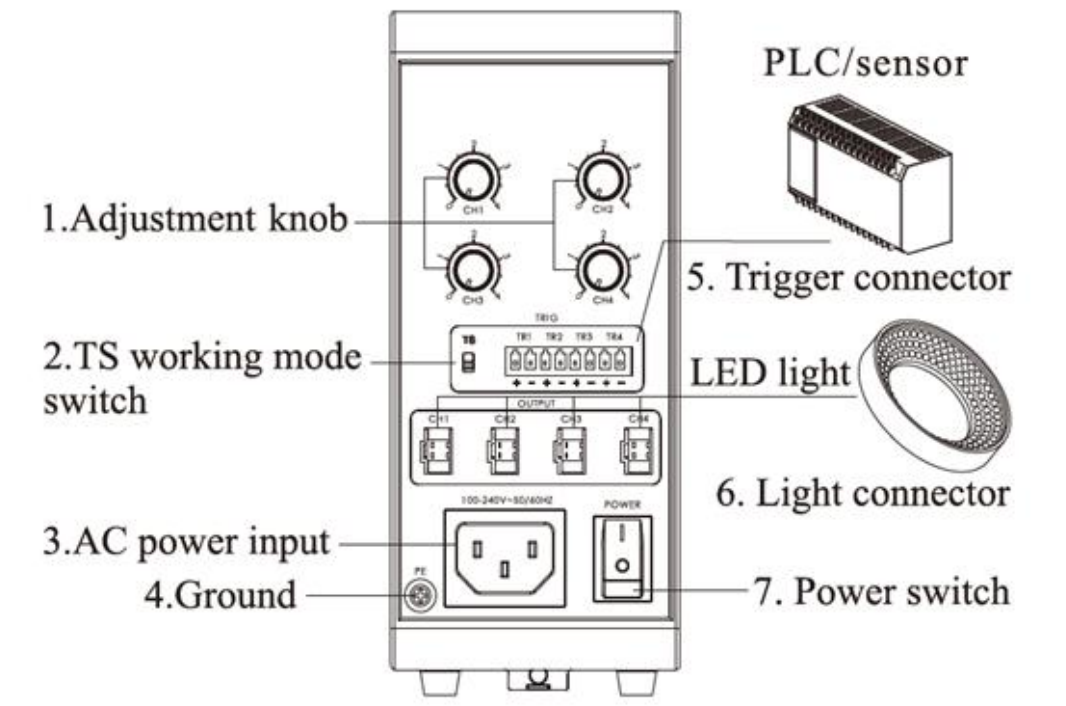

Figure 2.1
Step 2: Connect the light source to the controller's light source interface (refer Figure 2.1).